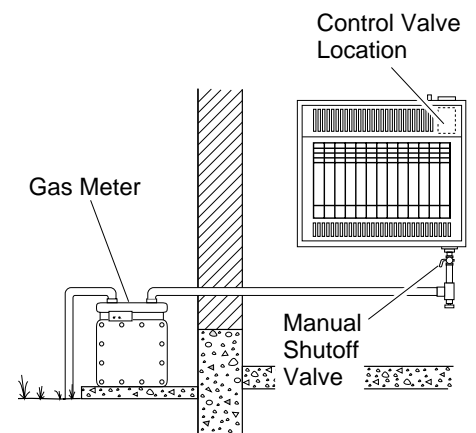

Figure 15 - Checking Gas Joints
3. Check all joints from propane/LP supply tank or main gas valve to manual shutoff valve (see Figure 15). Apply mixture of liquid soap and water to gas joints. Bubbles forming show a leak.
4. Check all joints from manual shutoff valve to control valve (see Figure 15). Apply mixture of liquid soap and water to gas joints. Bubbles forming show a leak.